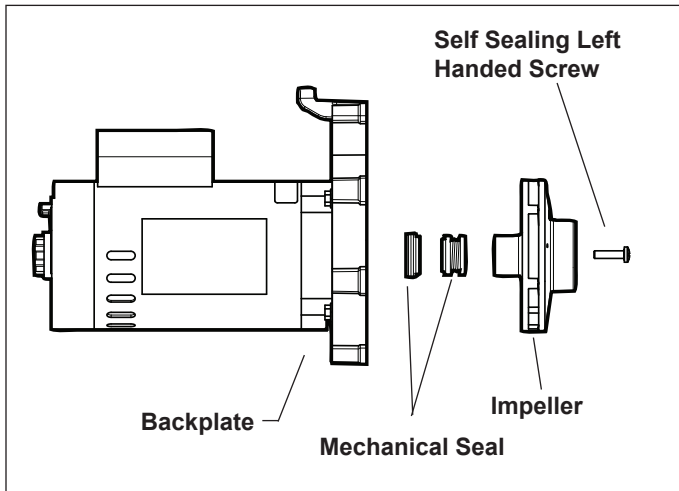

Figure 7. Remove the Impeller
8. Hold the exposed motor shaft with a ½" wrench while removing the impeller center screw using a No. 3 Phillips screwdriver. Since the impeller center screw is a left-hand threaded screw, turn it clockwise to loosen it. See Figure 7.